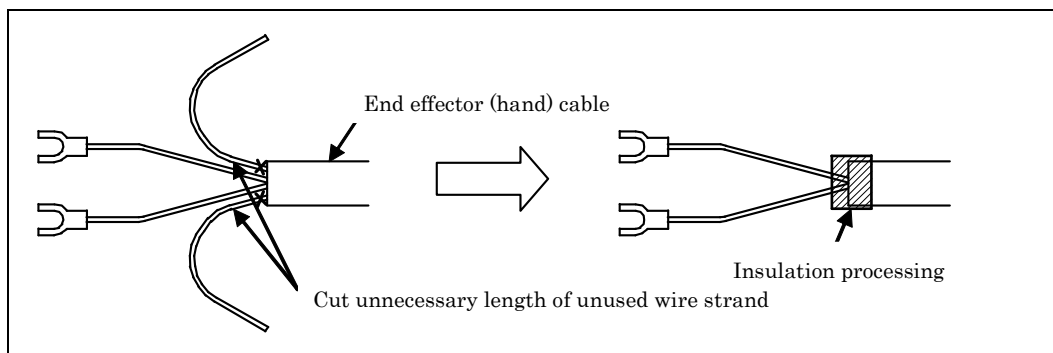

Fig. 5 (a) Treatment method of end effector (hand) cable
- Cut and discard any unnecessary length of wire strand of the end effector (hand) cable. Insulate the cable with seal tape. (See Fig. 5)